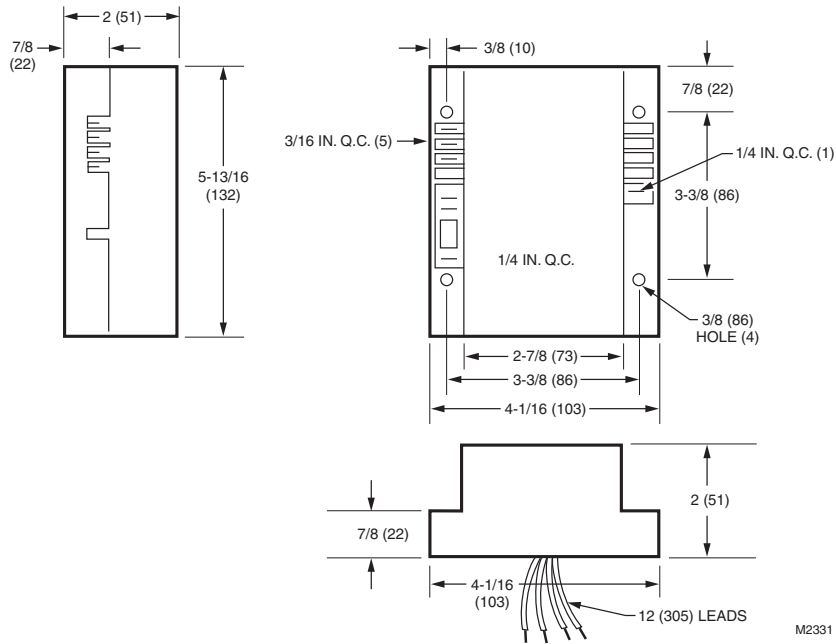

Fig. 1. S89 dimensions in in. (mm).
**Dimensions:** See Fig. 1.
The S89 may be mounted in any position. See Fig. 1 for mounting dimensions. Mount with 1 in. (25 mm) long, no. 6-32 machine screws or no. 8 sheet metal screws. Fasten securely.